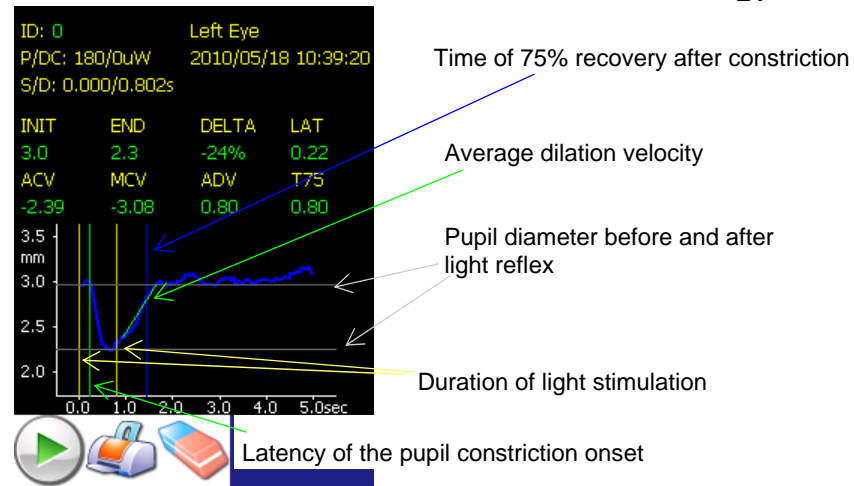

Figure 3.5
When the analysis is complete, the results screen will display as shown in Figure 3.5.
- **ID**, the identification code of the subject measured (for example 0 in Figure 3.5); which eye was measured (Left in the example), and the date and time of the measurement. Remember that if variables are displayed in red, then the measurement was affected by a blink or a similar artifact that occurred during the period of the pupillary light reflex. In this case, the measurement data should not be trusted and the measurement should be repeated.
- The **intensity**, **onset** and **duration** of the light stimulation. In the example shown in Figure 3.5, the light stimulation intensity (*P*) was 180 micro Watts with a (*DC*) background level of 0 micro Watts. The onset of the light stimulation (*S*) was at 0 seconds for a total duration (*D*) of 0.802 seconds. The onset and duration of the light stimulation is also represented by two yellow vertical lines superimposed over the pupil plot.
- **INIT** and **END** represent the diameter of the pupil before the reflex (INIT=3.0 mm in this example) and just at the peak of the reflex (END=2.3 mm) respectively. They are given in **millimeters** and are represented by two horizontal gray lines superimposed over the pupil plot (Figure 3.5). The variable **DELTA** is the amount of the constriction (INIT-END)/INIT as a percent.
- **ADV** is the **dilation velocity** (given in **millimeters/second**) and represents the average pupillary velocity, when, after having reached the peak of the constriction, the pupil tends to recover and to dilate back to its initial resting size. Pupillary recovery after a light reflex constriction is usually characterized by an initial and more rapid phase followed by a much slower converging movement. The dilation velocity reported here refers to the initial and stronger recovery and is indicated in the graph (see example in Figure 3.5) by a green line fit to the corresponding dilation phase of the pupil profile. If a blink occurred during the dilation, this variable might not be displayed.
- **T75** is the total time taken by the pupil to recover 75% of the initial resting pupil size after it reached the peak of constriction. It is given in **seconds** (0.80 in the example) and is represented by a vertical blue line superimposed on the pupil plot (Figure 3.5). If a blink occurred during the dilation, this variable might not be displayed.
If the level of the light stimulation is equal to the background level, then there will be no pupil reflex. All of the dynamic variables described in Figure 3.5 are omitted. Instead, the mean and standard deviation of the pupil diameter evaluated over the entire duration of the experiment are provided in the results page.
The subject record currently displayed in the results window (Figure 3.5) can be printed by activating the short menu bar at the bottom of the results page (Figure 3.5) with a press of the down arrow key and then selecting the printer icon.
All records corresponding to the ID specified in the Browse catalog window will be displayed (as in Figure 3.5). You can review each single record using the right and left arrow keys on the directional keypad (Figure 3.1). Each time a record is displayed in the LCD, you can decide to print it by selecting the printer icon on the menu bar located at the bottom of the record display.